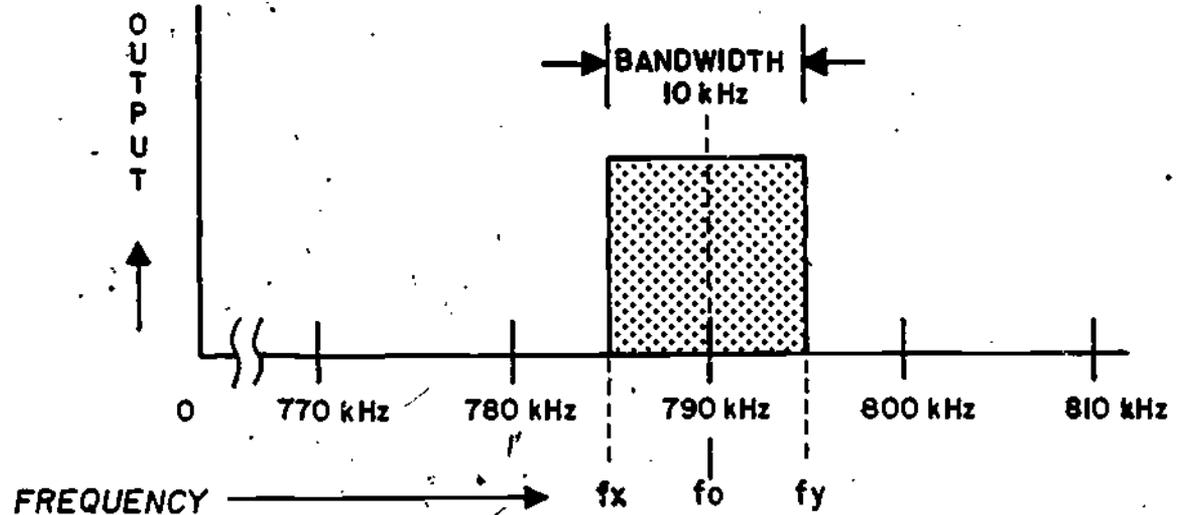
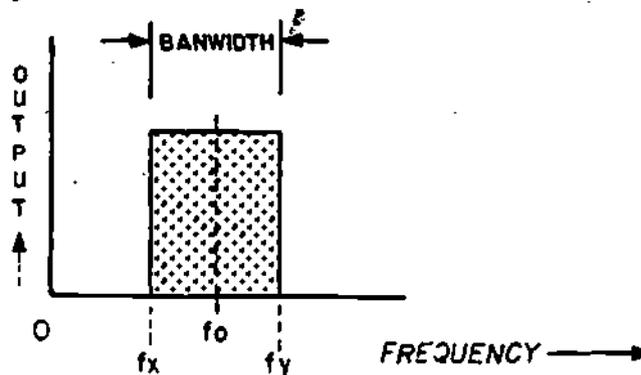

Figure 1: IDEAL RECEIVER FREQUENCY RESPONSE CURVE
Figure 2
Suppose you tune in your favorite rock station at 790 kHz on the AM radio dial. In order to get good sound reproduction, your radio receiver will be tuned to select a center frequency of 790 kHz with a 10 kHz bandwidth as shown in Figure 1.
Ideally, your radio receiver should select and amplify only the signal which contains the necessary information, and completely reject all other signals. To do this, an ideal receiver would need the rectangular frequency response curve shown in Figure 1. In the figure, the flat top indicates that the receiver should have constant gain within the 10 kHz bandwidth. The vertical sides at  $f_x$  and  $f_y$  indicate that frequencies on either side of these points would not be amplified.
In Figure 1, the flat top shows that the ideal receiver has constant \_\_\_\_\_ within the bandwidth around a selected  $f_o$ .
- ④ The converted input signal into an IF amplifier in your radio receiver contains all the original information needed for good sound reproduction. Therefore, the ideal IF amplifier should have the rectangular frequency response curve shown in Figure 2.
Notice that the shape of the response curve in Figure 2 is the same as for the ideal receiver response curve in Figure 1. Therefore, the ideal IF amplifier should have constant gain within its bandwidth, and no gain beyond the bandwidth limits as  $f_x$  and  $f_y$  as shown in Figure 2.